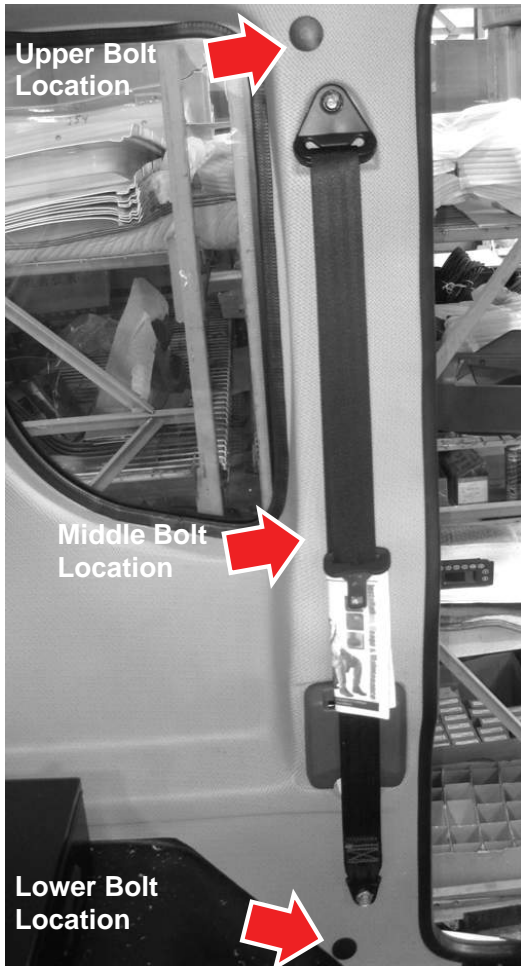

Figure 12-9
9. Replace the upper bolt with new bolt (GM410108AB24). Tighten bolt to 19 ft-lb (26 N•m) of torque (see Figure 12-9).
10. Replace the middle bolt with new bolt (GM410108AD13). Tighten bolt to 13 ft-lb (18 N•m) of torque (see Figure 12-9).
11. Replace the lower bolt with new bolt (GM410108AD13). Tighten bolt to 13 ft-lb (18 N•m) of torque (see Figure 12-9).